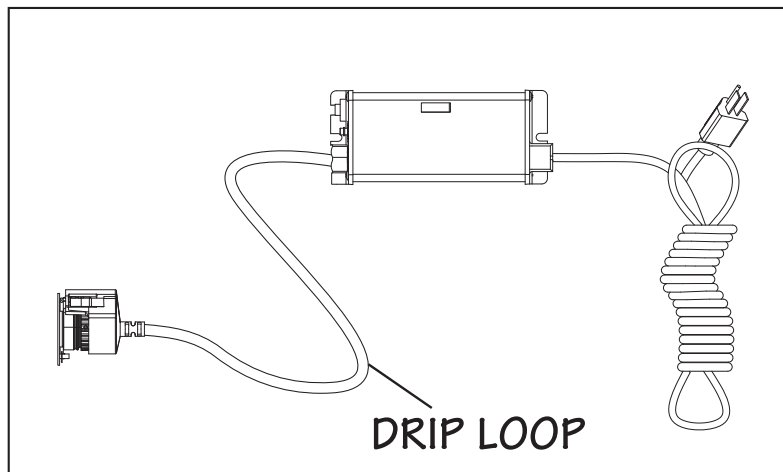

Figure 5 Drip Loop
- The controller should be mounted either above or beside the chamber. Always mount controller horizontally to prevent moisture from running down cordage and causing a potential fire hazard. Drip loops in all cordage connected to controller is highly recommended. Refer to Figure 5.
4. Mount the VIQUA ICE controller horizontally to the wall, near the chamber. Ideally place the controller above the chamber and away from any water connection point, to prevent any water from potentially leaking onto the controller by means of a leak at a connection point or a “sweating” system. Make sure you allow for a “drip-loop” as shown in Figure 5 on the lamp, sensor, and power cord, again, to prevent any water from potentially entering the controller.